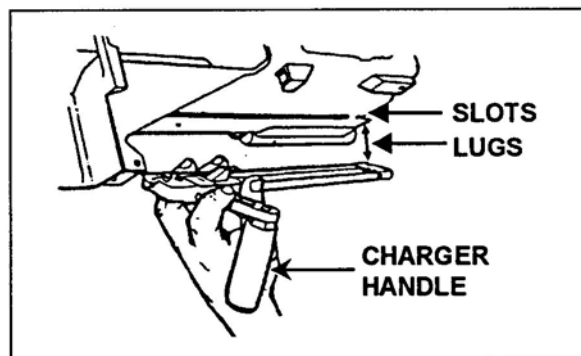

Figure 16. Attachment of the charger assemblies.
- a. Attach the charger assemblies (both sides) (Figure 16).